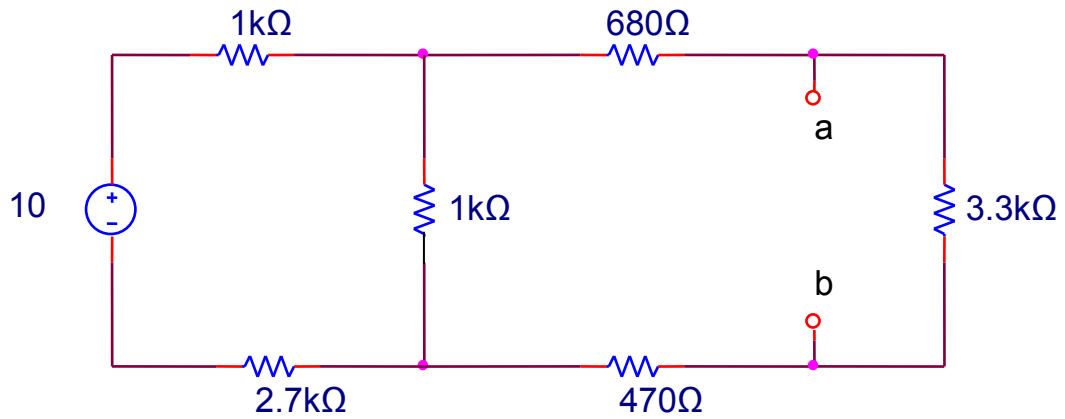

Figure 5.4
1. Find the Thevenin and Norton Equivalents for the circuit to the left of a-b in figure 5.4.
1. Construct the circuit of Figure 5.4. Measure the voltage, V_{ab} .
11. Use SPICE to calculate V_{ab} for the circuit in Figure 5.4. Compare your results to your measurements in step 1 of the procedure.
12. Use SPICE to find V_{OC} and I_{SC} for the circuit in Figure 5.4. (Note: you will need to modify the circuit to do this.)